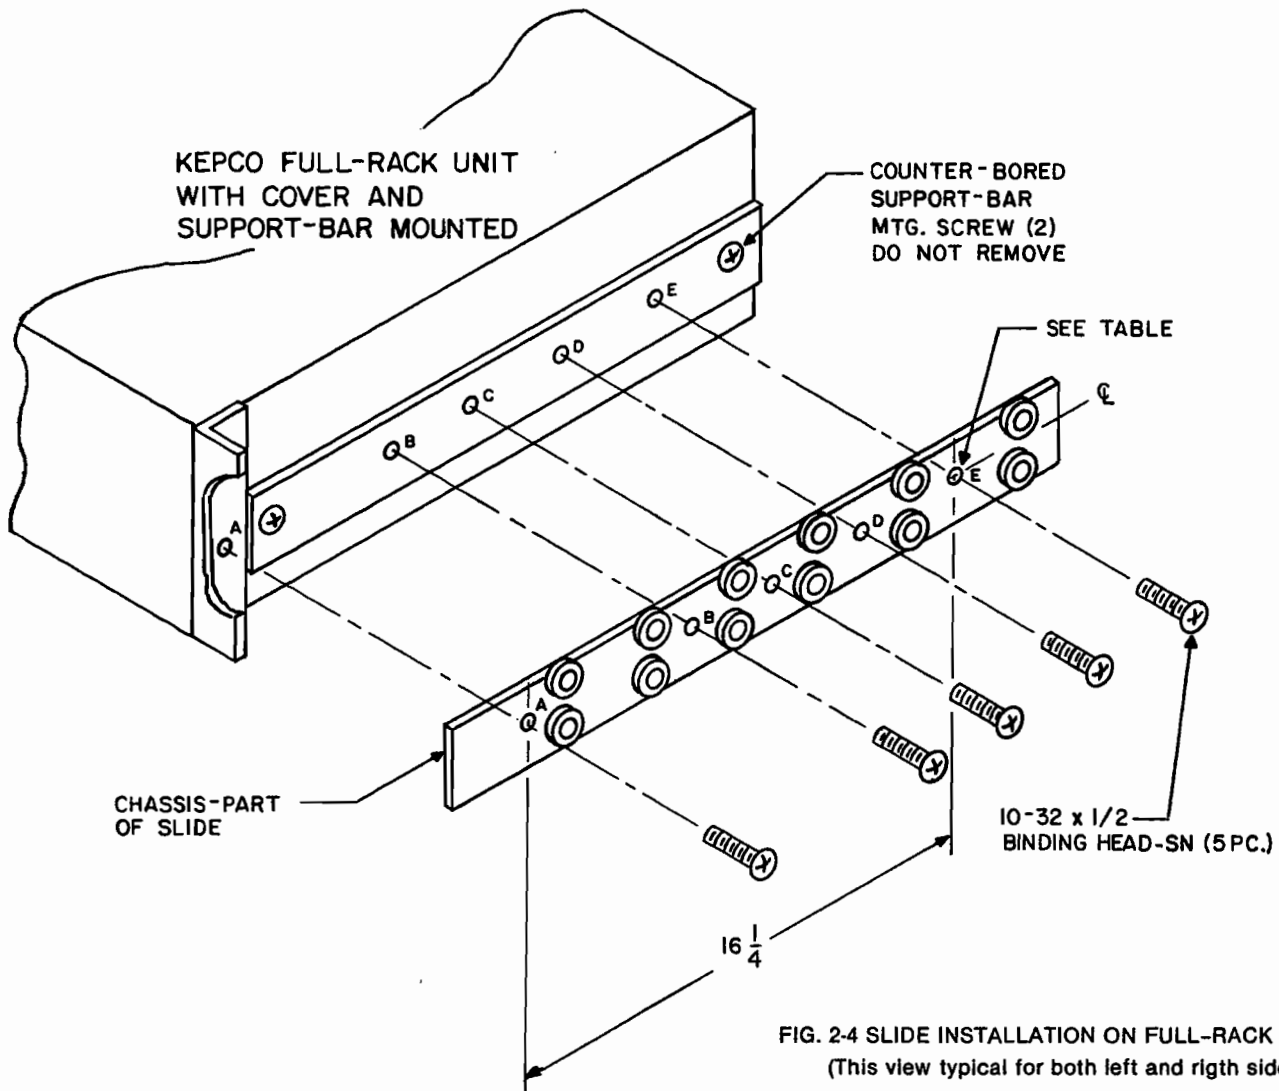

FIG. 2-4 SLIDE INSTALLATION ON FULL-RACK UNITS (This view typical for both left and right side)
2-12 INSTALLATION OF FULL-RACK BOP MODELS (Refer to Section I, Fig. 1-4 and to FIG. 2-4).
2-15 PROCEDURE (Refer to FIG. 2-4):
- 4) Mount the chassis section of the slide to the left and right side of the BOP, as shown in FIG. 2-4. Use the same 10-32 x 1/2" Mounting Screws which you removed in step (1).